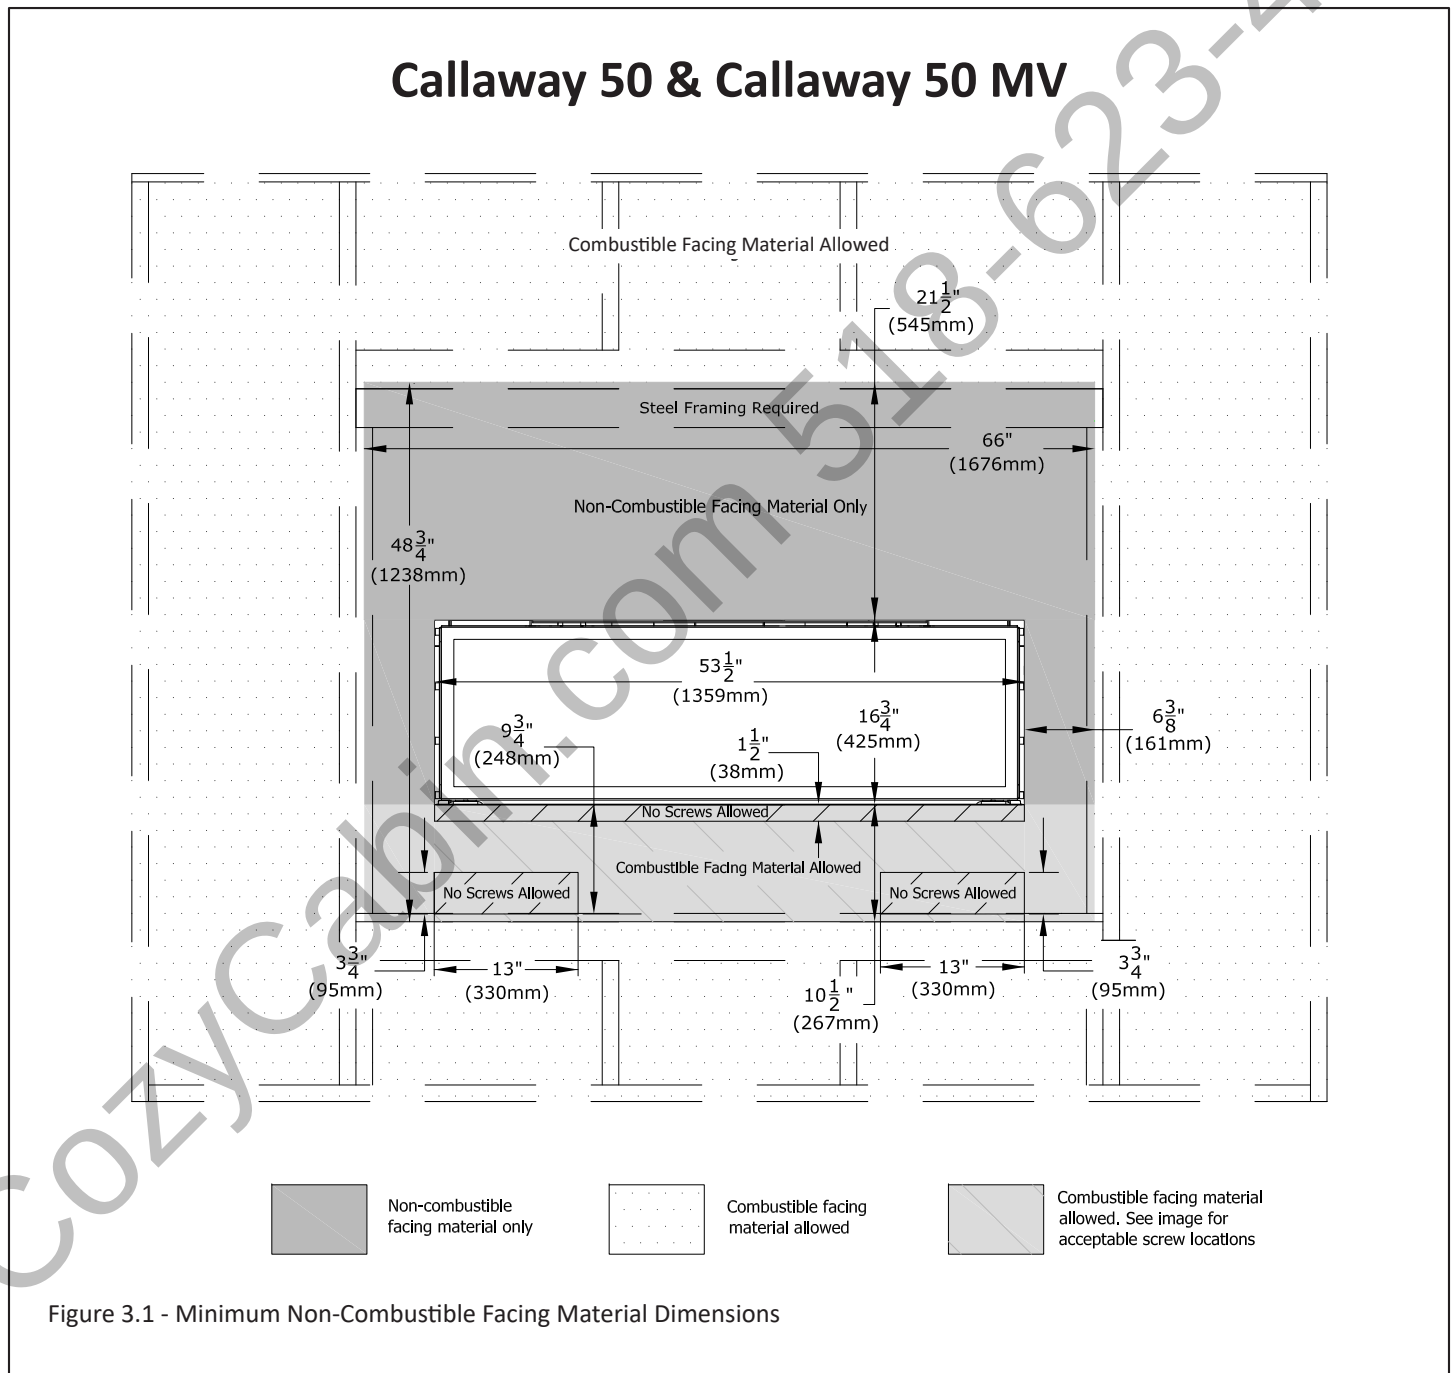

Figure 3.1 - Minimum Non-Combustible Facing Material Dimensions
Figure 3.1 and Figure 3.2 show the non-combustible facing material requirements.
- Figure 3.4 shows installation of combustible wall finish up to 1" (25mm) thick for the Callaway 50 & Callaway 50 MV. This combustible material goes on top of any required non-combustible facing material as required in Figure 3.1.
- Figure 3.1 (Callaway 50 & Callaway 50MV) and Figure 3.2 (Callaway ST) show the non-combustible zones for the minimum requirement of non-combustible facing material.